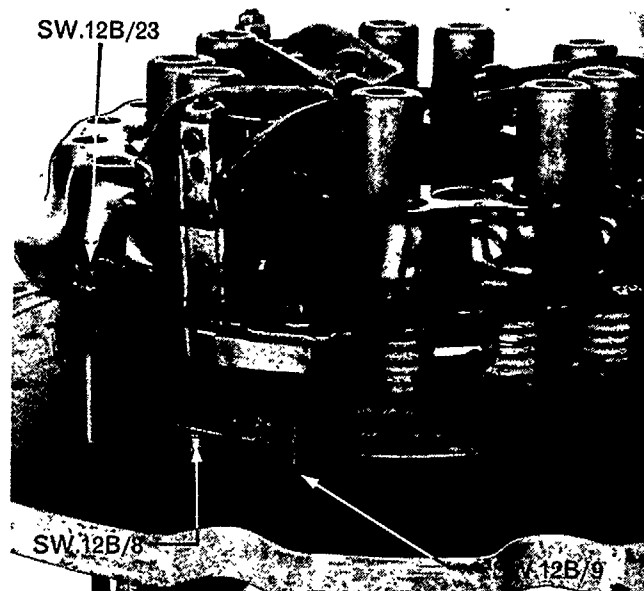

Figure 50
2. Place three transmission disc spacers, Tool Number SW12B/8, on the base plate, SW12B/15, of the tool. Locate a spacer adjacent to each pair of fixing bolt holes, Figure 50.
3. Install the double clutch assembly on the spacers and insert riser spacers, SW12B/9, between the intermediate pressure plate and the base plate of the tool, positioning one at each of the fixing bolt locations, Figure 50.